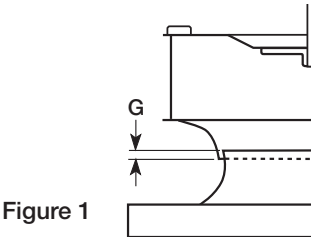

Figure 1
1. Check all fasteners for tightness. The wheel should rotate freely and be aligned as shown in Figure 1.
Wheel improperly aligned and rubbing	Center wheel on inlets, see Figure 1.